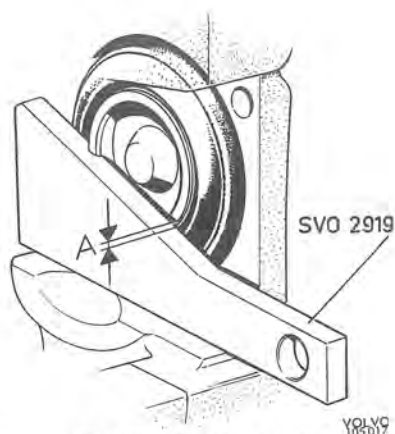

Fig. 5-29. Checking location
3. Check to make sure the pistons are in the proper position to avoid brake squeal. The piston recess should incline 20° in relation to the lower guide area on the caliper. Check the location with template SVO 2919, see Fig. 5-29. The tolerance is $\pm 2^\circ$, that is, when the template is placed against the one recess, the distance to the other (meas. A) may be max. 1 mm (0.039").